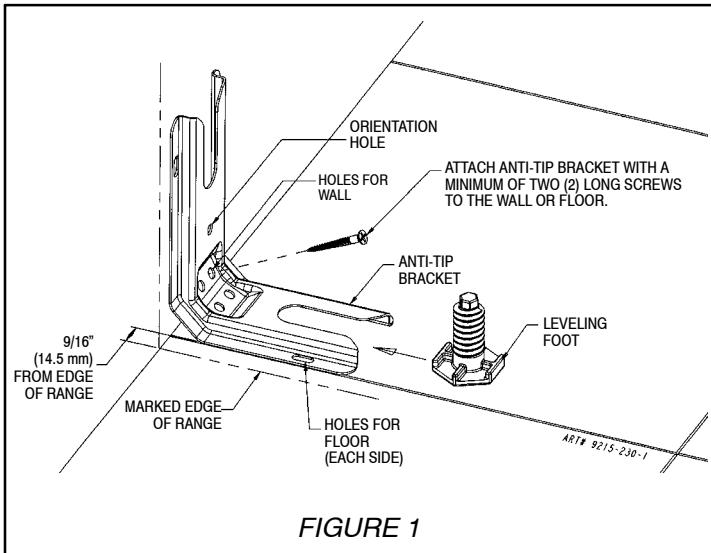
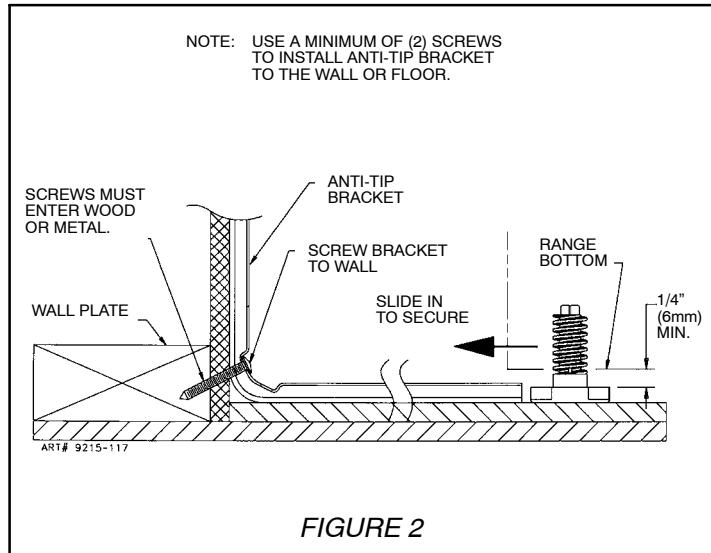

FIGURE 1
FIGURE 2
STEP 1 - Locating The Bracket (see figure 1)
- B. Place the BRACKET 9/16" (14.5 mm) from the marked "EDGE" toward center of opening and against the back wall as shown in figure 1, with orientation hole against wall.
- C. Use the bracket as a template and mark the required holes, as shown in figure 1 for the type of construction you will be using.
1. Floor: Locate the center of the two holes identified in figure 1 as "HOLES FOR FLOOR". Drill a 1/8" (3 mm) pilot hole in the center of each hole (a nail or awl may be used if a drill is not available). Secure the ANTI-TIP bracket to the floor with the two screws provided. Proceed to STEP 3.
2. Wall: Locate the center of the two holes identified in figure 1 as "HOLES FOR WALL". Drill an angled 1/8" (3 mm) pilot hole in the center of each hole as shown in figure 2. (A nail or awl may be used if a drill is not available). Secure the ANTI-TIP bracket to the wall with the two screws provided as shown in figure 2. Proceed to STEP 3.
1. Suitable screws for concrete construction can be obtained at a hardware store. Drill the required size hole for the screws obtained into the concrete at the center of the holes identified in figure 1 as "HOLES FOR FLOOR". Secure the ANTI-TIP bracket to the floor. Proceed to STEP 3.
NOTE: A minimum clearance of 1/4" (6 mm) is required between the range and the leveling foot that will engage the anti-tip bracket, (see figure 2).